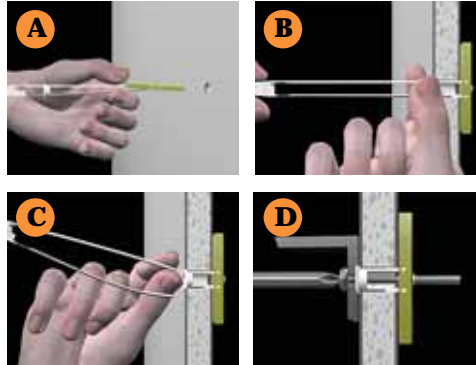

Figure 52. Installing the Toggle Bolts
3. (Refer to Figure 52, graphic **A**) Hold the metal channel flat alongside the plastic straps and slide the channel through the hole.
4. (Refer to Figure 52, graphic **B**) Hold the strap handle between your thumb and forefinger and pull towards you until the metal channel rests flush behind the wall.
5. (Refer to Figure 52, graphic **C**) Break the straps at the wall, flush with the flange of the cap. The straps can be broken by pushing them from side-to-side and simply snapping them off.
Figure 52, Graphic **D** shows a cutaway example of how the toggle bolt is used to secure an item to the wall (in our case, the item is the Wall Mounting Bracket—secured to the wall with 5 toggle bolts).